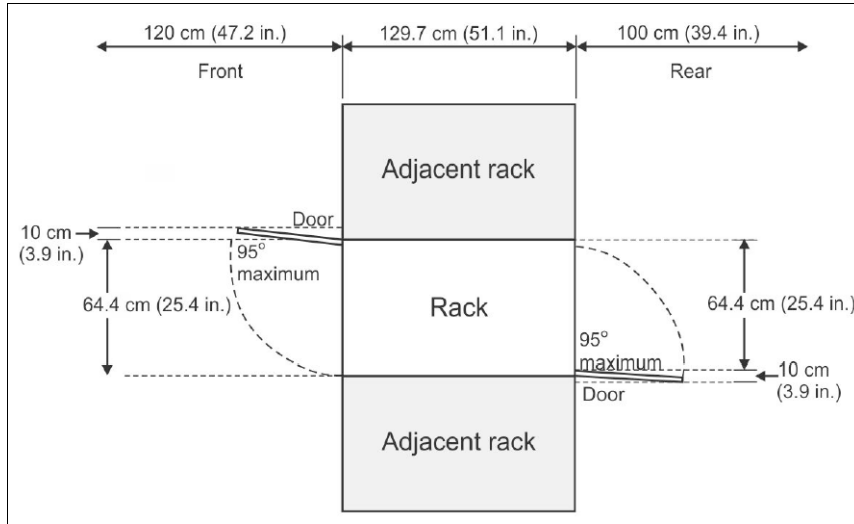

Figure 5-1 FlashSystem A9000R floor space requirements
- ▶ The rack dimension and clearance requirements are listed in Table 5-1. Also see Figure 5-1 on page 111.
- ▶ The following measurements in Figure 5-1 are provided for your convenience.